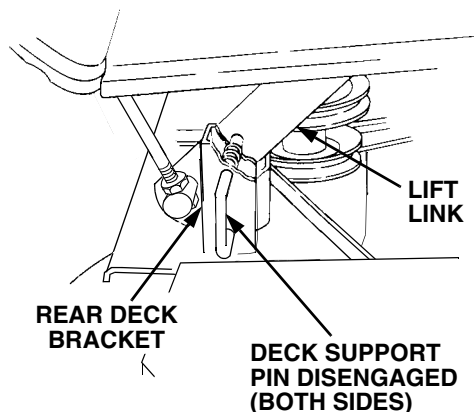

Figure 44
6. Pull the deck support pins outward, turn downward and release so both spring-loaded pins are held in the disengaged position against the outer surface of the deck brackets (See Figure 44).